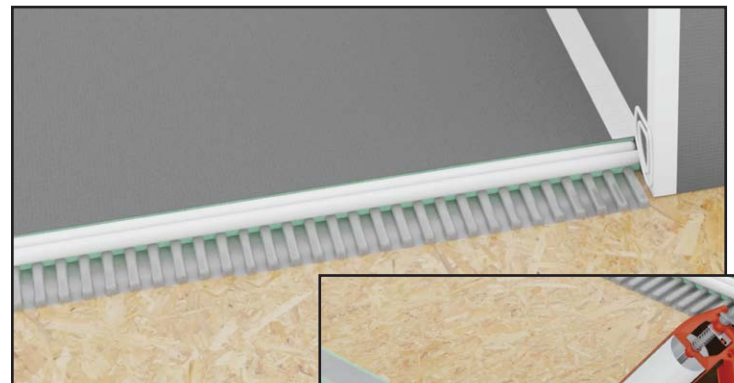

Fig. 26
2. Apply modified thinset to the floor where the Shower Curb sits (minimum 3/8" trowel), keeping it ½" away from the foam edge of the Pan (fig. 26). Using the flat side of the trowel, coat the exposed foam on the bottom of the Shower Curb with thinset.